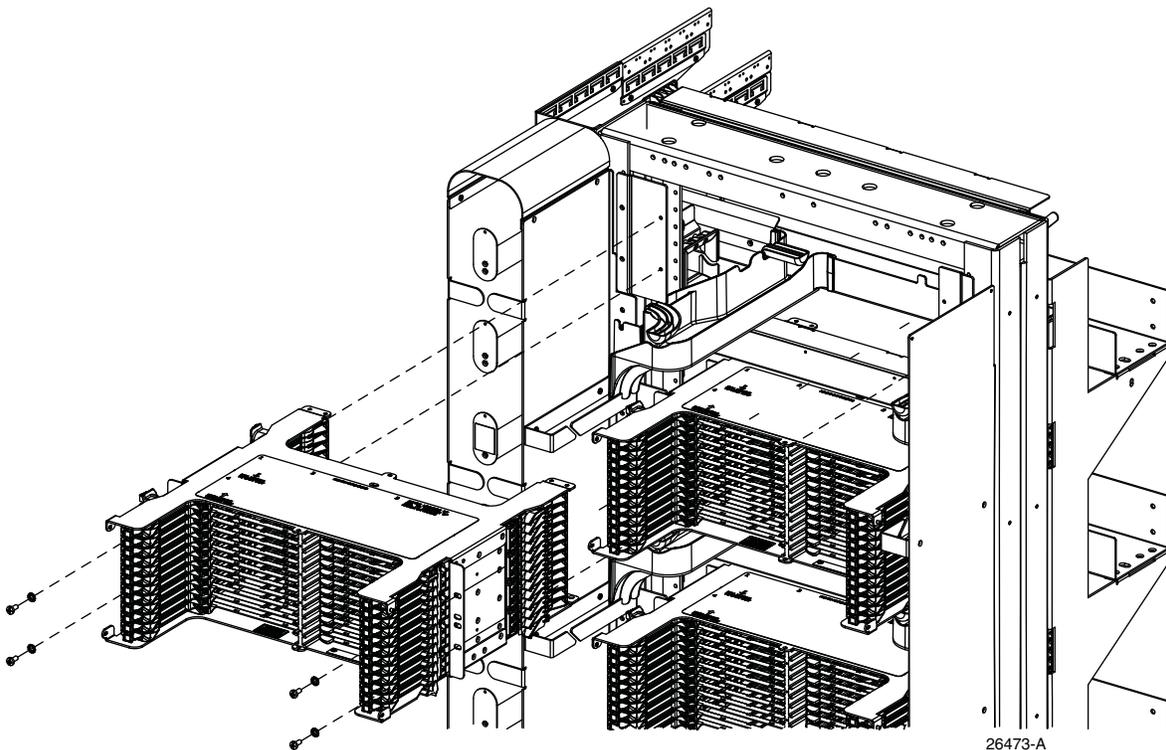

Figure 2. Installing Chassis in Frame
2. Install screws and star washers into the two left side holes on the rack to hang the chassis on the rack, then install screws and washers in the right two holes. See Figure 2.